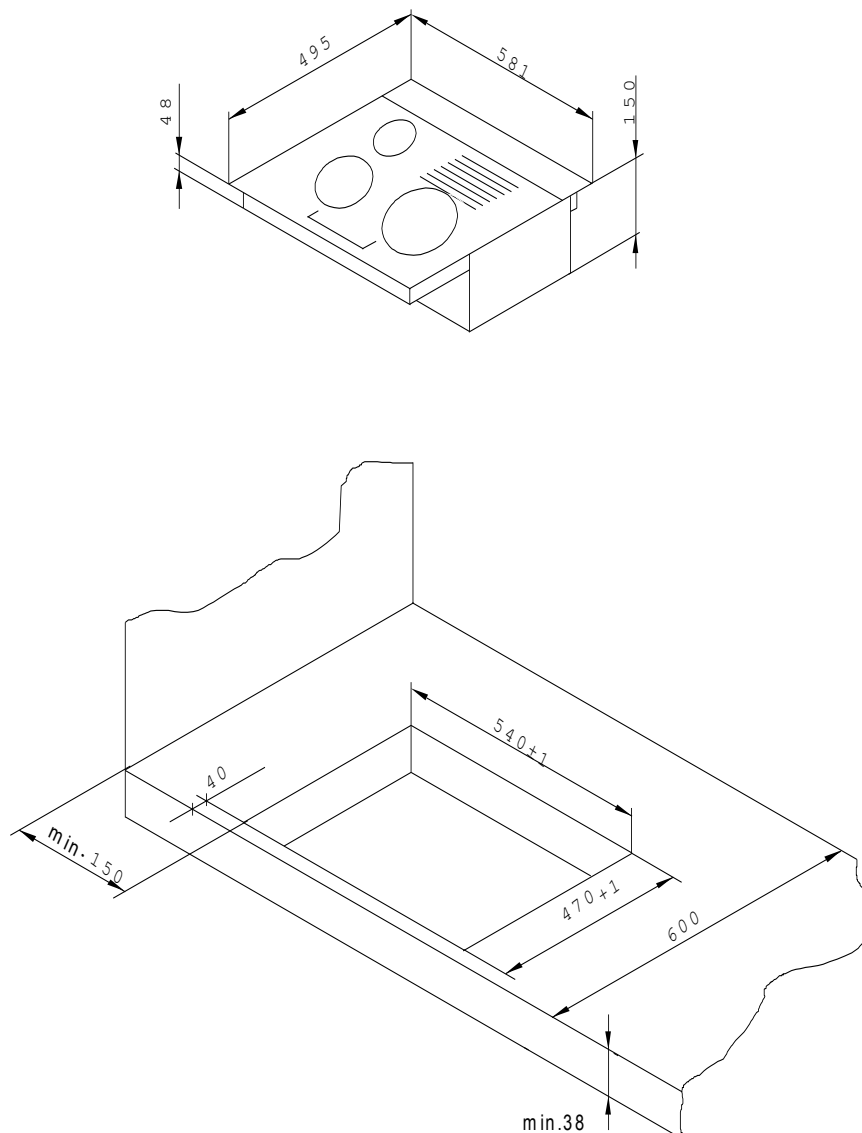

Fig. 3. Installation
*You may also vary the burner power in a different way. First activate the selected burner (fields 5, 6, 7, of the controller) by touching any location within the power setting control field – **no 3 on fig. 3**. The activated burner’s power will change in increments, to reach the level corresponding to the touching point. Set the power level using this method within not more than 5 seconds. After 5 seconds of completing the last change of pad power, the control pad of the controller will stop receiving further instructions, and a new power value of the selected burner will be set as specified in the preceding step.*